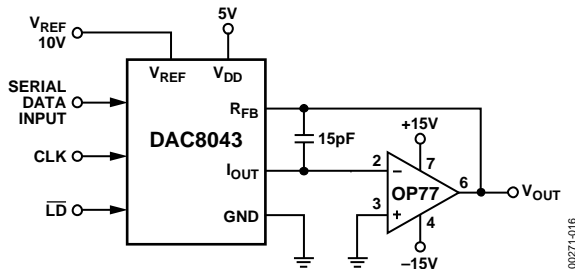
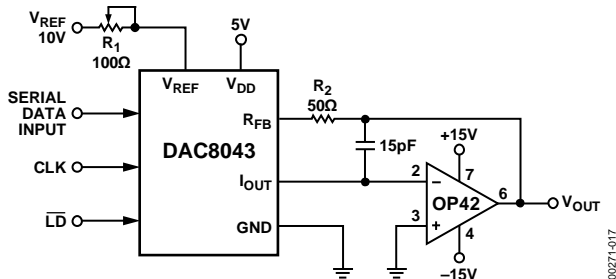
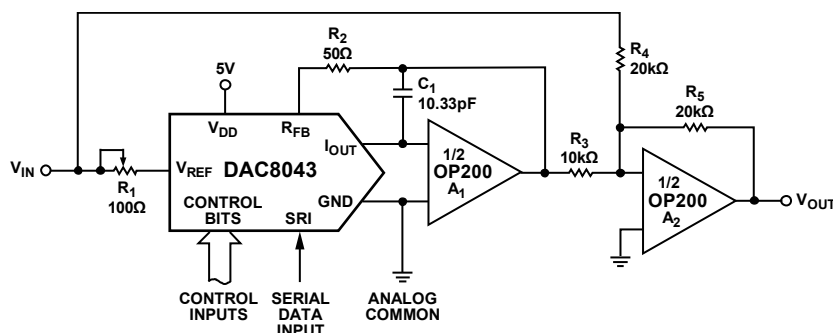

Figure 16. Unipolar Operation with High Accuracy Op Amp (2-Quadrant)
Figure 17. Unipolar Operation with Fast Op Amp and Gain Error Trimming (2-Quadrant)
Figure 19. Bipolar Operation (4-Quadrant, Offset Binary)
1. Phase compensation (see Figure 16 and Figure 17).
In most applications, linearity depends upon the potential of the I_{OUT} and GND pins being equal to each other. In most applications, the DAC is connected to an external op amp with its noninverting input tied to ground (see Figure 16 and Figure 17). The amplifier selected should have a low input bias current and low drift over temperature. The amplifier's input offset voltage should be nulled to less than 200 μ V (less than 10% of 1 LSB).
The circuits shown in Figure 16 and Figure 17 may be used with an ac or dc reference voltage. The output of the circuit ranges between 0 V and approximately $-V_{REF}$ (4095/4096), depending upon the digital input code. The relationship between the digital input and the analog output is shown in Table 6. The limiting parameters for the V_{REF} range are the maximum input voltage range of the op amp or ± 25 V, whichever is lowest.
Gain error may be trimmed by adjusting R_1 , as shown in Figure 17. The DAC register must first be loaded with all 1s. R_1 may then be adjusted until $V_{OUT} = -V_{REF}$ (4095/4096). In the case of an adjustable V_{REF} , R_1 and R_2 may be omitted, with V_{REF} adjusted to yield the desired full-scale output.
¹ Nominal full scale for Figure 16 and Figure 17 circuits is given by
² Nominal LSB magnitude for Figure 16 and Figure 17 circuits is given by
Figure 19 details a suggested circuit for bipolar, or offset binary, operation. Table 7 shows the digital input to analog output relationship. The circuit uses offset binary coding. Two's complement code can be converted to offset binary by software inversion of the MSB or by the addition of an external inverter to the MSB input.
¹ Nominal full scale for Figure 19 circuits is given by
² Nominal LSB magnitude for Figure 19 circuits is given by
The transfer function for the DAC8043 connected in the multiplying mode, as shown in Figure 16, Figure 17, and Figure 19, is